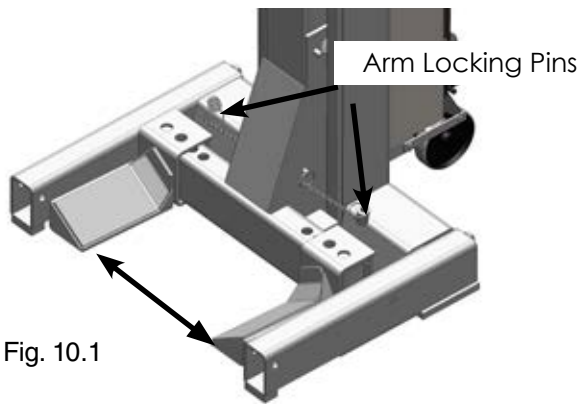

Fig. 10.1
4. Adjust the fork arms by removing the Arm Locking Pins and sliding the fork arms so that they are spaced wider than the tire diameter of the vehicle. (See Fig 10.1)